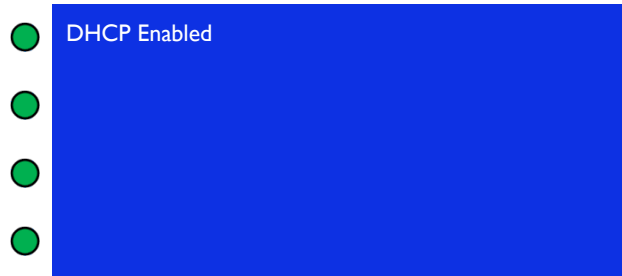

Figure 18: DHCP with Cursor
1. When the LCD display shows the screen in Figure 18, press ↓. The DHCP screen appears.